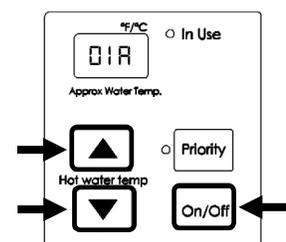

Figure 5: Controller Display
- b. Press the **A** button for 1 second. **01A** appears on the controller display (Figure 5).